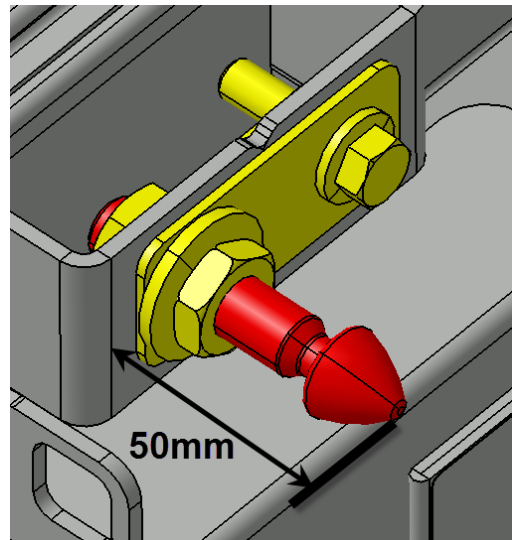

FIGURE 126
3. Before adjusting the pin, make sure that it doesn't exceed more than 2" (50mm) at the first closing of the door (FIGURE 126). Damage to the door can result if this condition is not respected.